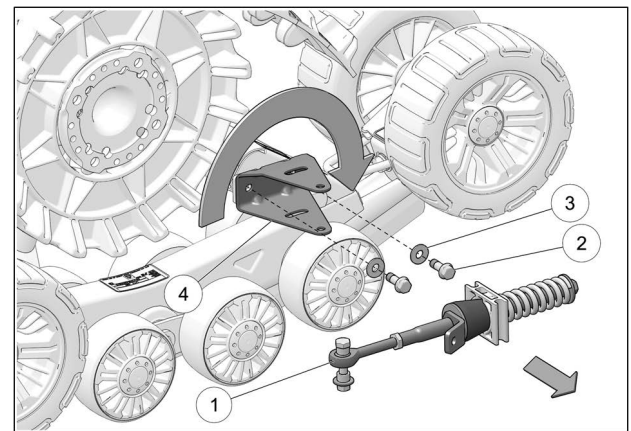

Fig. 13
4. Remove anti-rotation arm (1). Then remove bolts (2) and washers (3) securing anti-rotation bracket (4) to front Track system. Pivot anti-rotation bracket (4) 180°. See Fig. 13